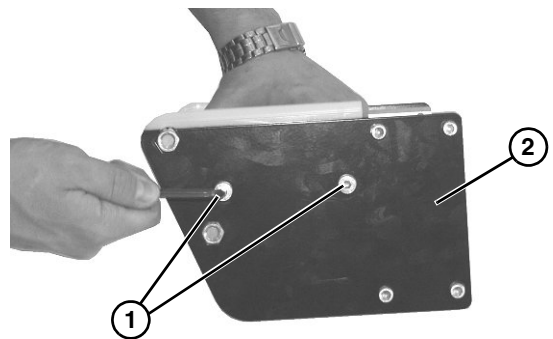

Figure 41
4. Remove two low head cap screws (**Figure 41, item 1**) from plate (**Figure 41, item 2**). Repeat procedure on opposite side.